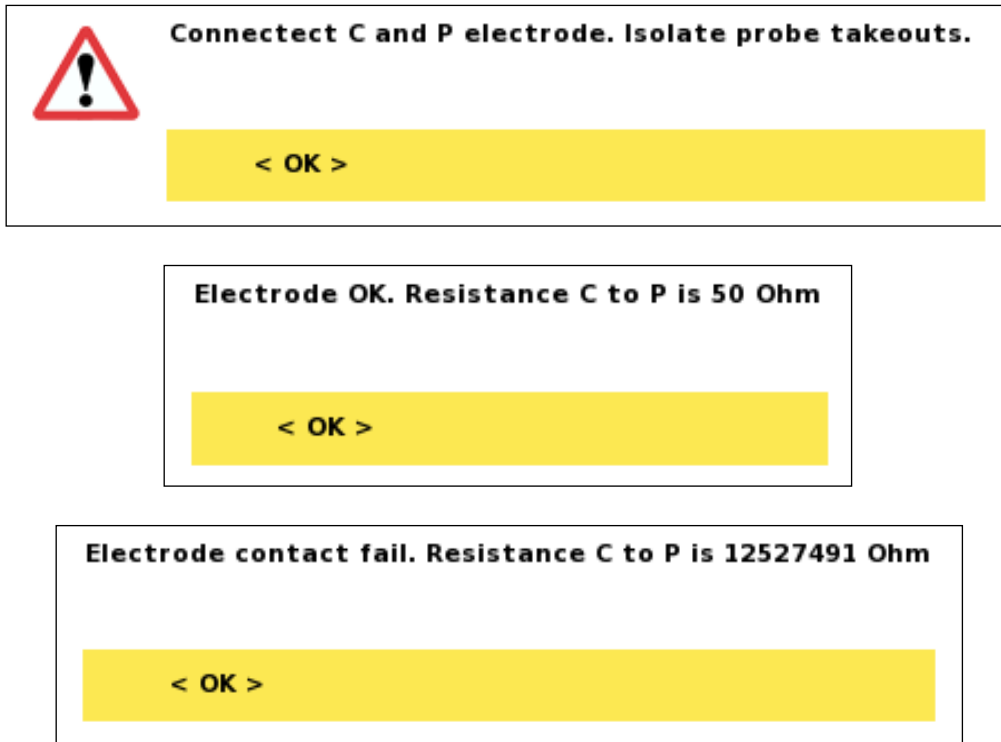

Figure 85 The Electrode Test dialogs
- Follow the instruction on the first dialog (Figure 85)